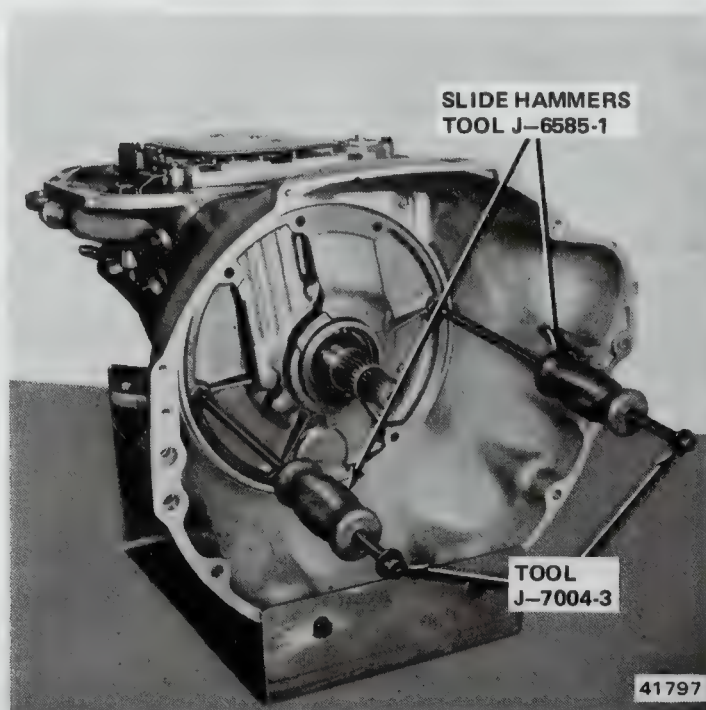

Fig. 2C-38 Oil Pump Removal
(3) Install Slide Hammer Tool J-6585-1 on Slide Hammer Bolts Tool J-7004-3 (fig. 2C-38).
(4) Thread bolts into holes in oil pump housing flange.
(5) Bump outward evenly with slide hammers to remove pump and reaction shaft support.